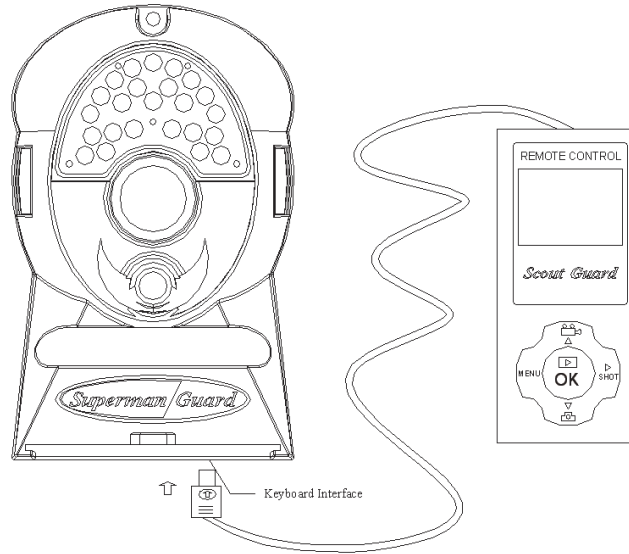

Figure 3: Connecting camera with remote control
- Fig. 3 shows how the remote control connects to the camera.